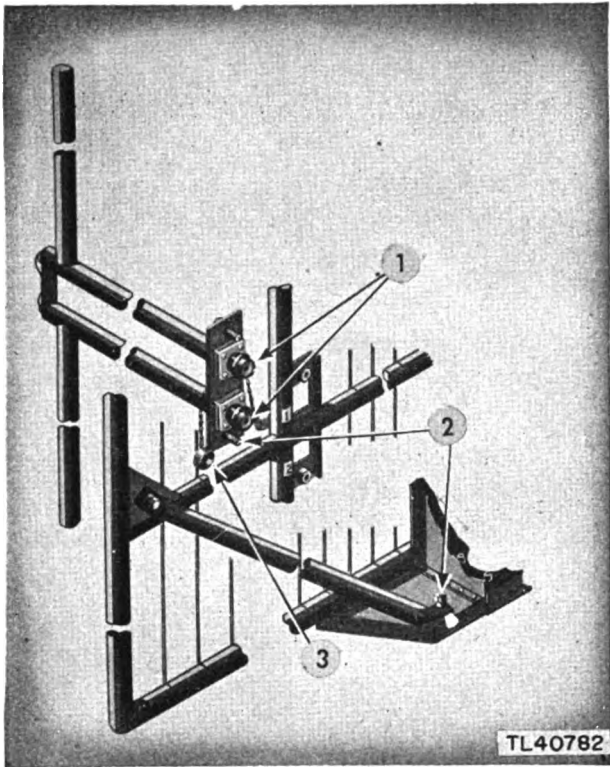

Figure 48. Antenna AN-154-A—close-up.
(1) Check the reflectors for broken welds.
(2) Inspect the dipoles for alignment and broken welds. (See also fig. 48.)
(3) Check the entire frame for corrosion, alignment, and rigidity.
(4) Inspect the connectors for moisture and corrosion. Check the cables for cracked insulation.
Avoid excessive handling and bending, especially in cold weather (fig. 48).